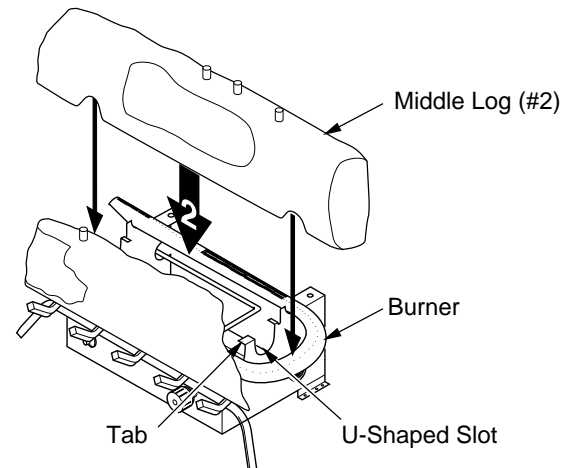

Figure 29 - Installing Middle Log (#2) (CCL3930PTA Shown)
2. Place the base of the middle log (#2) in the U-shaped slots of the grate base. The cutout on the right of the middle log should fit over the burner (see Figure 29). Make sure the front of the middle log is resting on the tabs of the grate base.